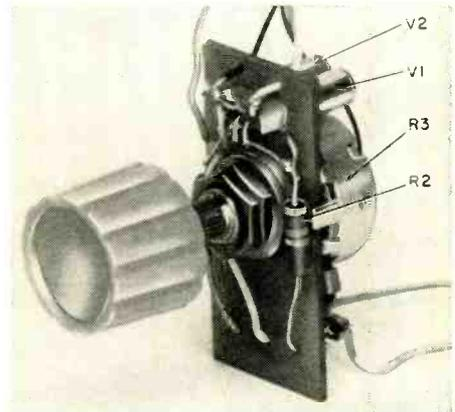

**Fig. 1—To get a full-scale reading on a 100- $\mu$ a meter with 1 volt at E, resistor R must be 10,000 ohms.**
**A**N indication of a voltmeter's quality is its ohms-per-volt input rating—the series resistance needed for a current meter to indicate 1 volt. For example, a 100- $\mu$ a meter is equivalent to 10,000 ohms per volt (see Fig. 1). Using  $E = IR$ , it is clear that 1 volt will be indicated when 100  $\mu$ a flows through 10,000 ohms. The meter's resistance is relatively small and may be ignored.